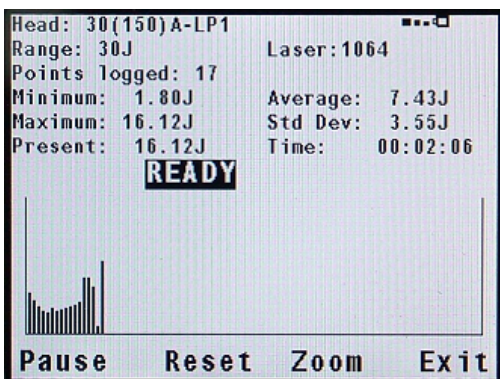

Figure 4.7
4.5.6. Energy Log and Data Storage (See Figure 4.7)